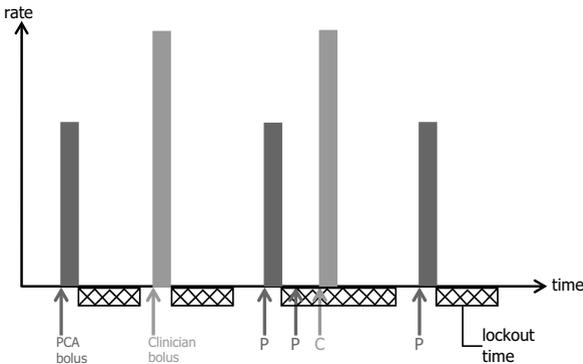

Figure 4.1: PCA bolus infusion mode
- PCA bolus, see Figure 4.1, page 26